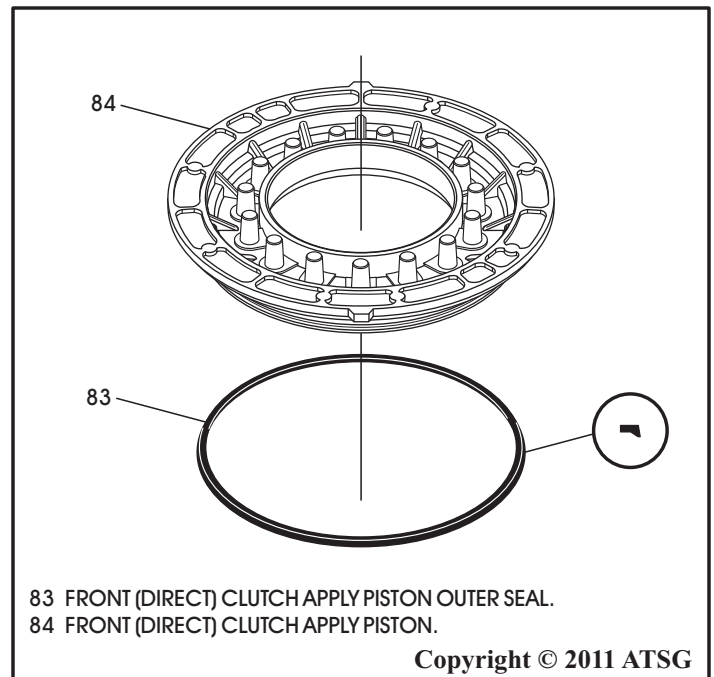

Figure 114
5. Install new outer lip seal on direct clutch apply piston, with the lip facing down, as shown in Figure 114.